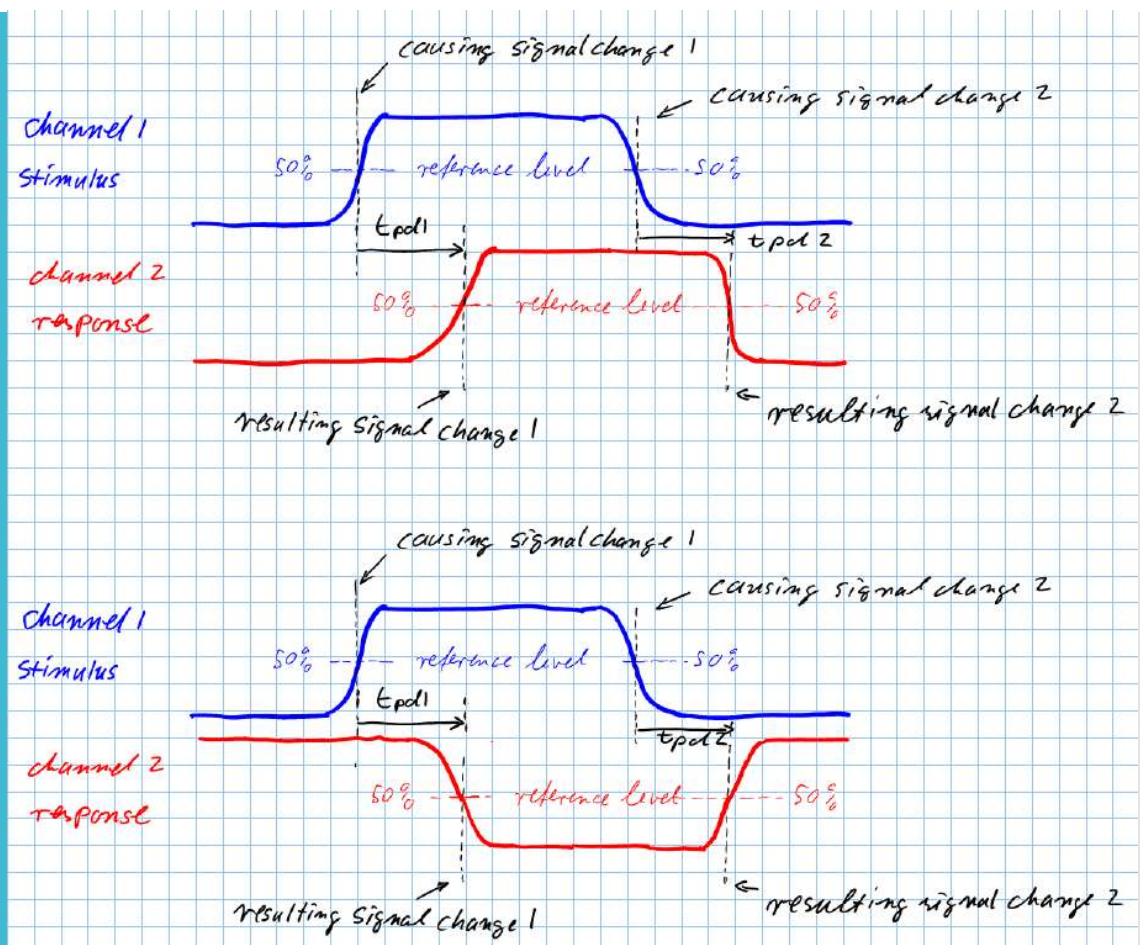

Fig. 9: Measurement of propagation delay t_{pd}
- Perform a measurement for the propagation delay of this part of the circuit. (regard definition of propagation delay as explained with Fig. 9)